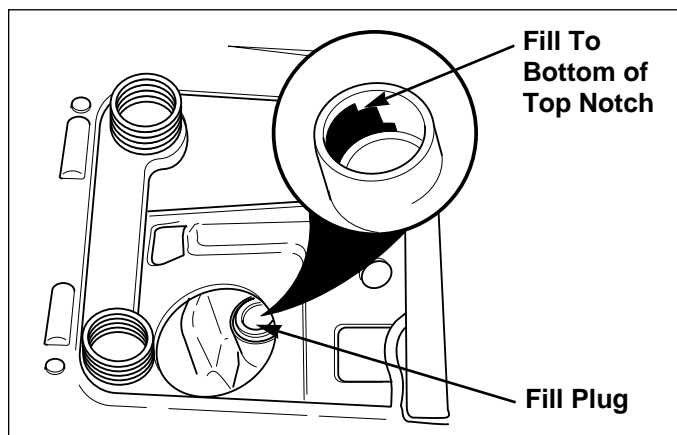

Figure 14. Hydro Transmission Fill Plug Location
3. Clean off the fill plug (see Figure 14) and surrounding area.
5. Check the oil level. The transmission should be filled with oil up to the top notch (see Figure 14 inset). If not, add oil.